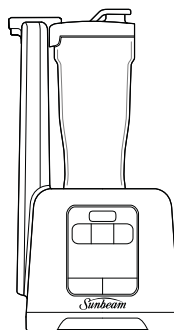

Figure 3
6. Push the Arm Lock on the NutriSeal™ Vacuum Arm down (Figure 3).